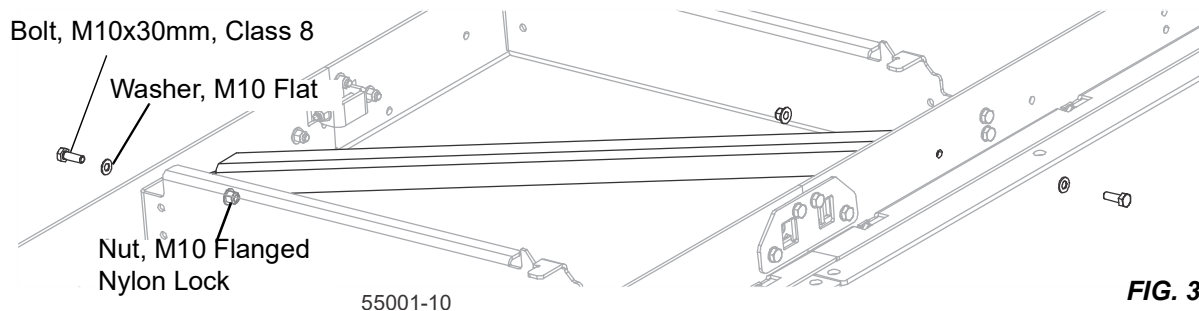

FIG. 3-4
2. Assemble the cross braces, tightening the M10x30mm bolts. See Fig. 3-4.